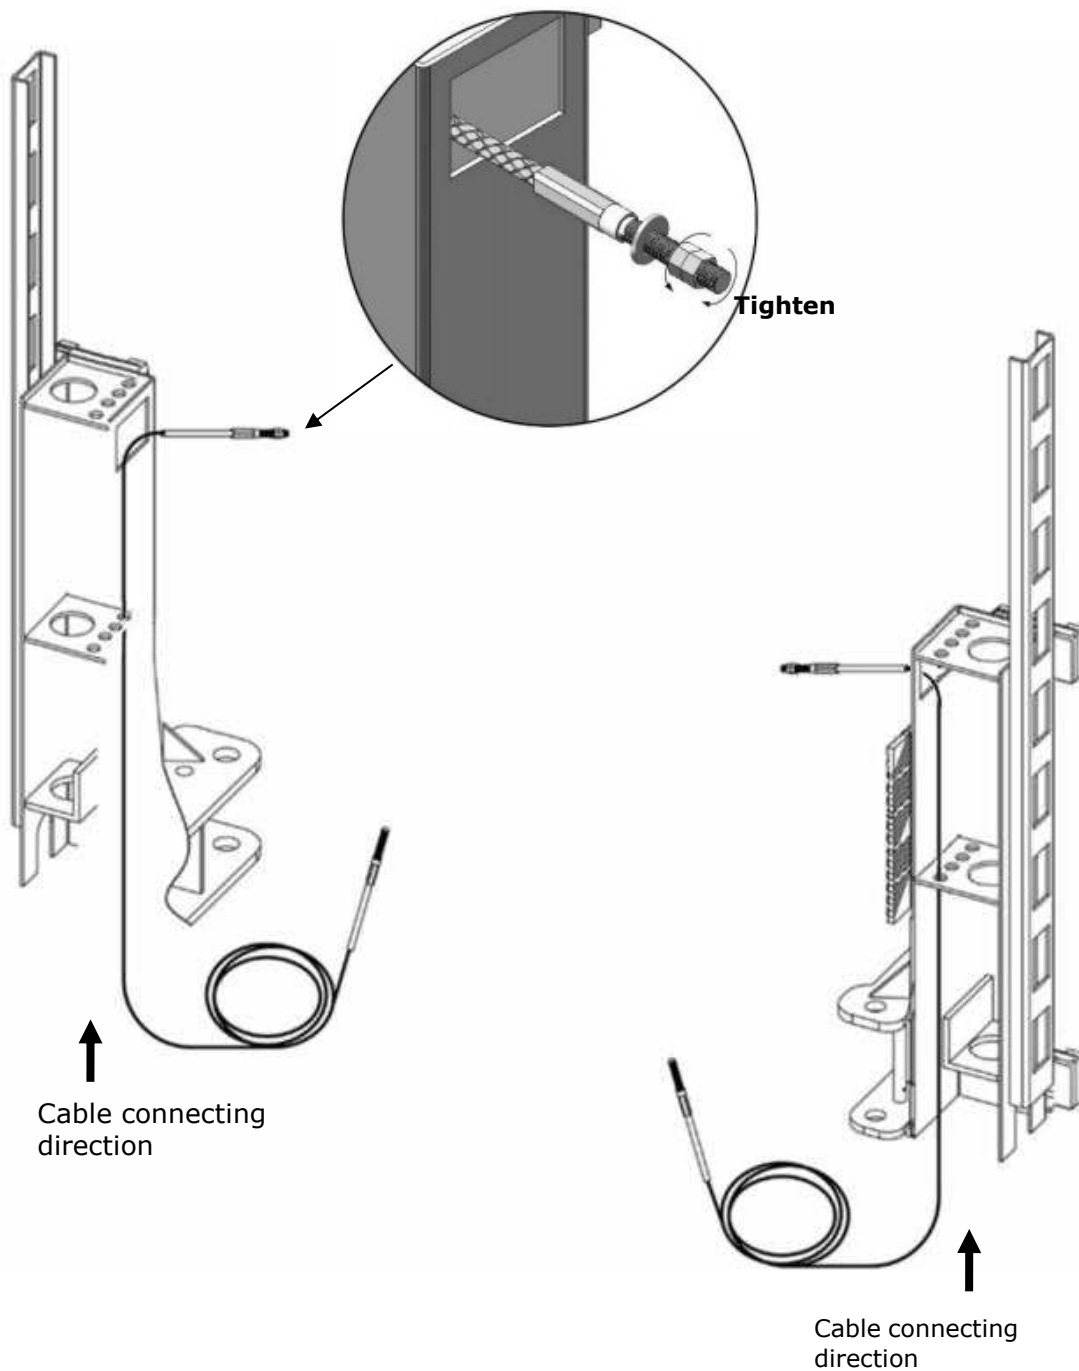

Fig. 28
- 1.1 Remove the carriages plastic cover, sync cable across from the bottom of the carriages and pull it out from the hole of carriage, then tighten two cable nuts. **(See Fig. 28)**